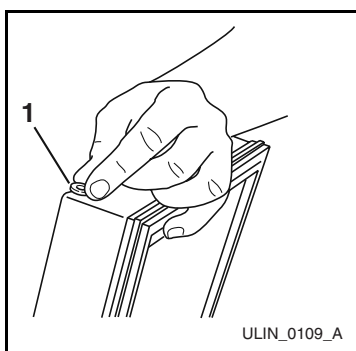

Figure 16
- Relocate plastic spacer/bushing (**Figure 16**) on bottom of door to the opposite side. Clean out bushing hole in door bottom if necessary.